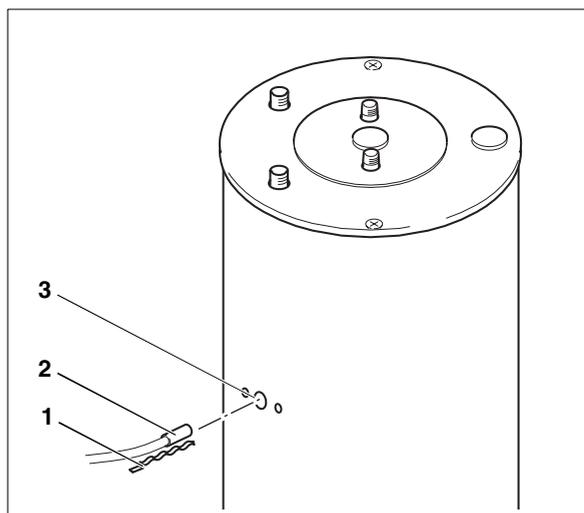

Fig. 7 Installation of temperature sensor
- Fully insert the suitable DHW sensor (Fig. 7, **Item. 2**) together with the tension spacer (Fig. 7, **Item. 1**) supplied with the tank into the factory installed tank well (Fig. 7, **Item. 3**). Wire sensor leads to suitable control terminals. (Sensor leads can be extended using regular thermostat wiring.)